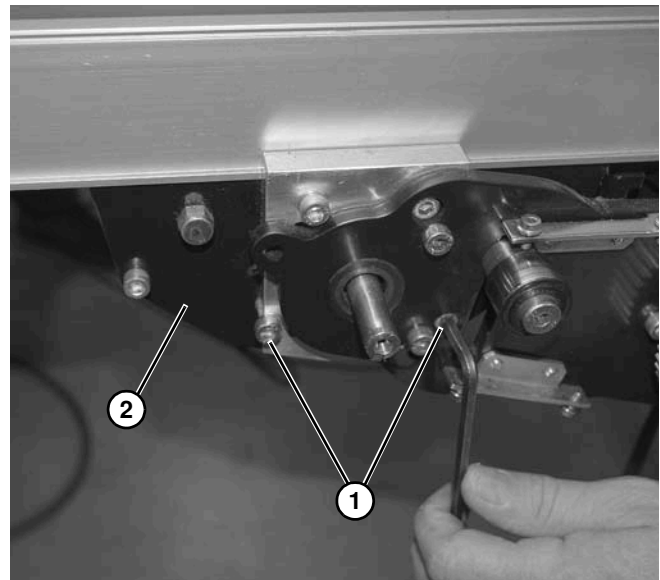

Figure 50
2. Remove two screws (**Figure 50, item 1**) from bottom of mid drive assembly (**Figure 50, item 2**) on each side.